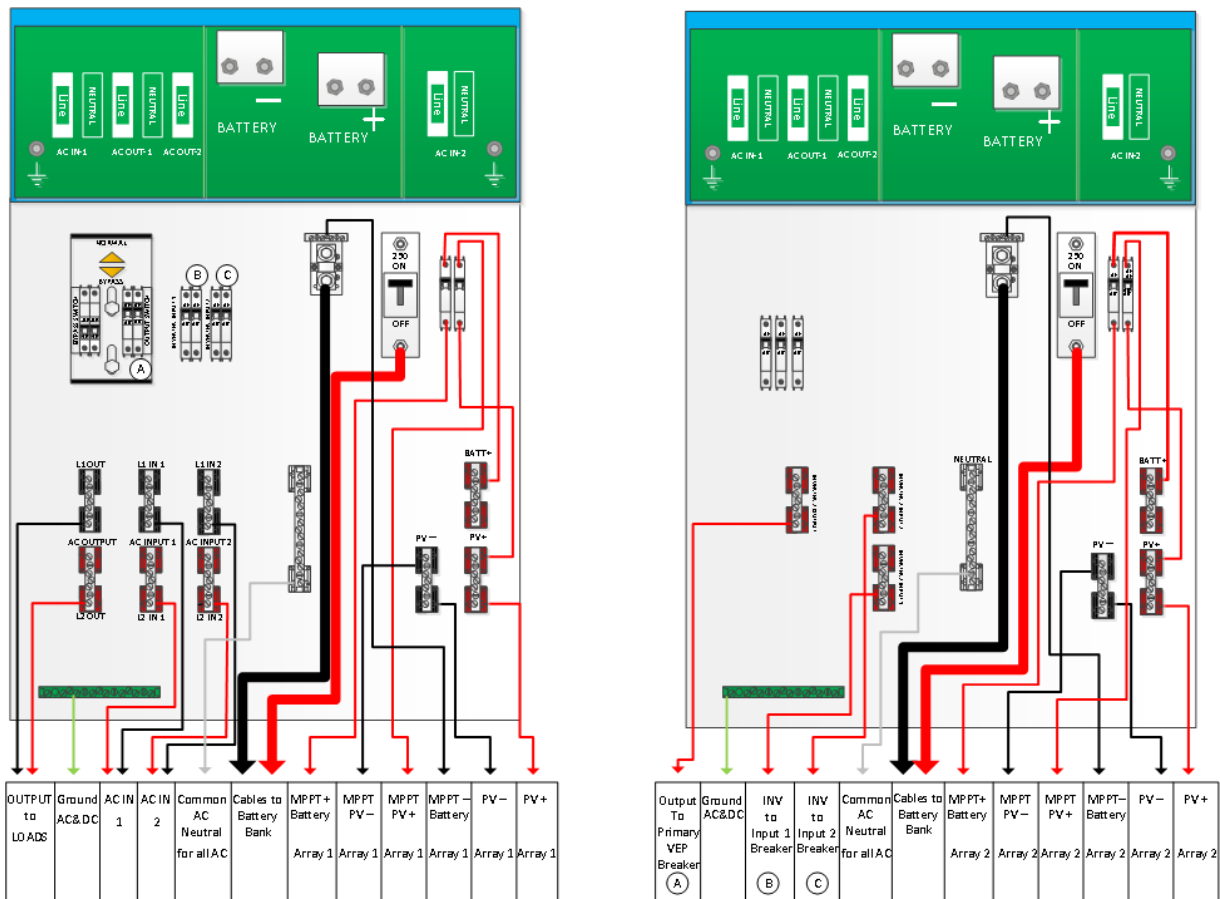

Figure 30 - 5kVA Installer Supplied Connections (3kVA Similar)
- Each charge controller must have a breaker/disconnect coming in from the PV combiner and also a breaker on the output of the controller. The need for breakers on both sides of the controller is an NEC requirement. For a more complete wiring diagram see Installer Supplied Connection Diagrams Figure 30.
- Installer connections are shown in Figure 30.
- You can use a single ground wire from the VE Panel for AC and DC for an off-grid installation. Refer to Figure 30 for installer connection points.